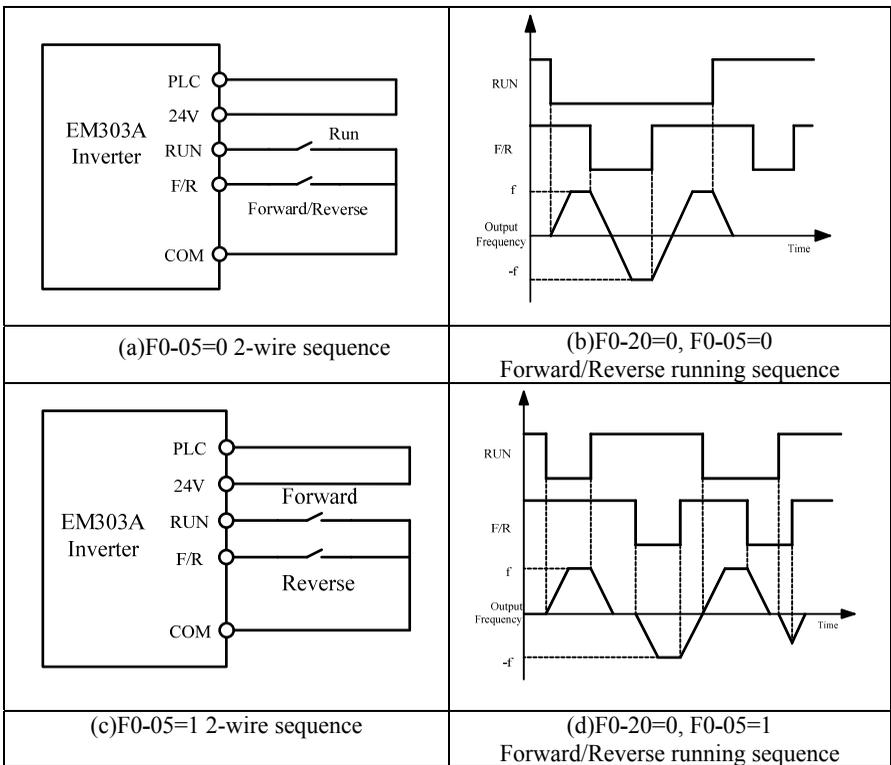

Figure 7-2 2-Wire Sequence
**F0-05=0** ON/OFF of terminal RUN controls start/stop of inverter, and OFF/ON of terminal F/R controls forward/reverse. If F0-24=1, when reverse is prohibited, terminal F/R is off. When stop mode is selected as ramp-to-stop, the sequence diagram is as shown in Figure 7-2 (b).
**F0-05=1** ON/OFF of terminal RUN controls forward/stop of inverter, and ON/OFF of terminal F/R controls reverse/stop. If terminals F/R and RUN are ON simultaneously, the inverter stops according to the setting mode. When reverse is prohibited, terminal F/R is off. When stop mode is selected as ramp-to-stop, the sequence diagram is as shown in Figure 7-2 (d).